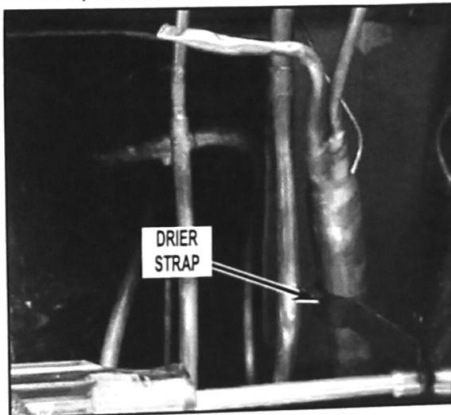

FIGURE 2
3. Remove the 1/4" screw securing the drier strap to the wall of the unit compartment and discard the strap. See *Figure 2*.